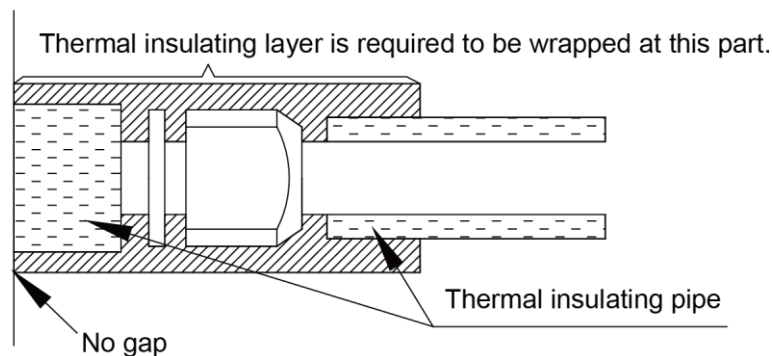

Fig. 21
- 2) Joints of indoor and outdoor unit should be wrapped with insulating material and leave no gap between pipe and wall. See Fig. 21.